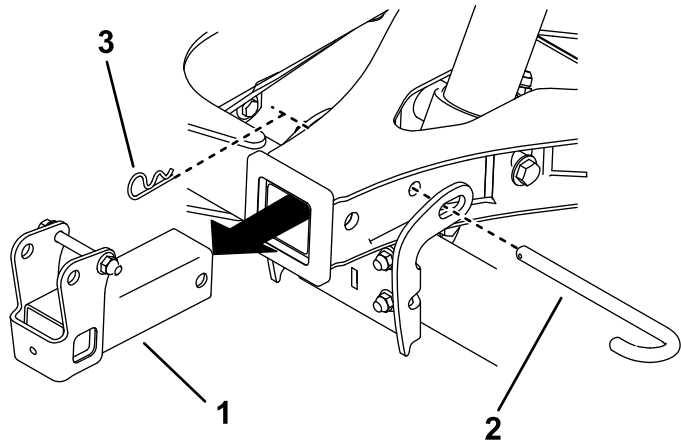

**Figure 27**
**Note:** If needed, use a drive ratchet (1/2 inch) to move the left idler pulley (Figure 27).